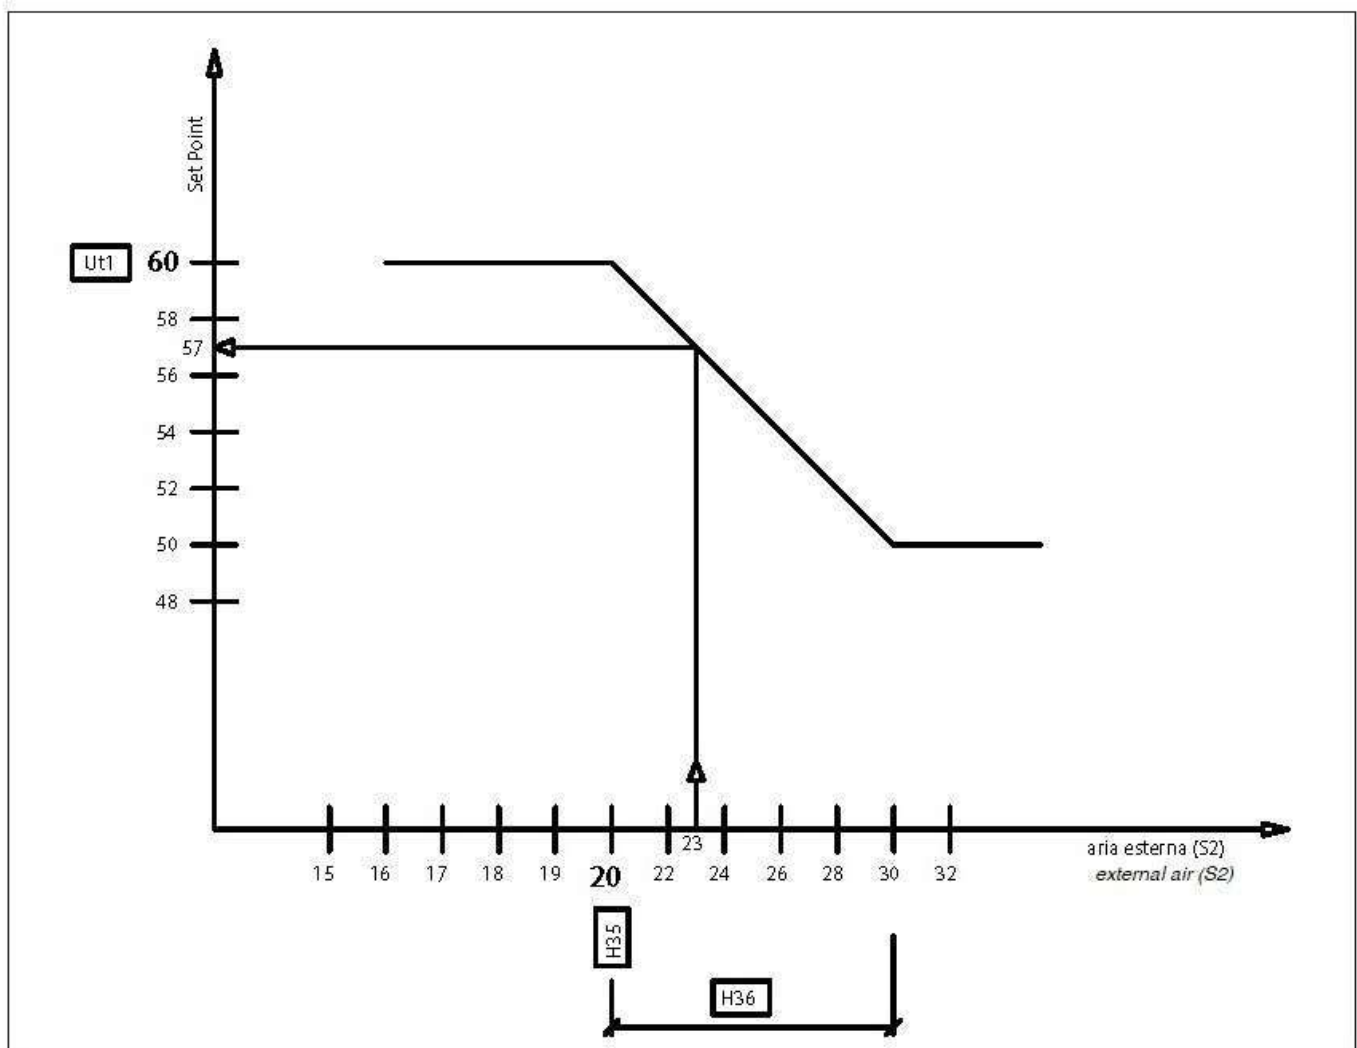

Fig. 13
**FUNZIONE SET POINT DINAMICO (fig. 13)**
DYNAMIC SETPOINT FUNCTION (fig. 13)